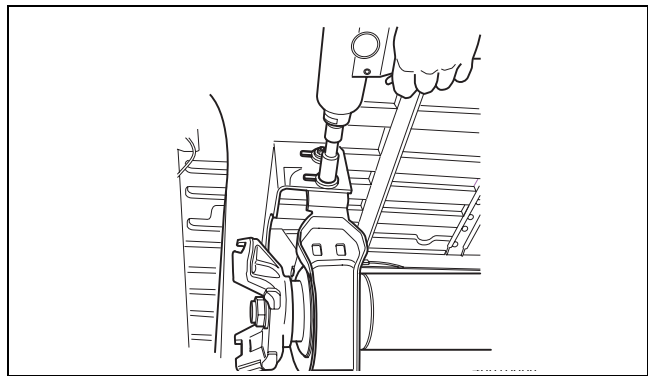

Figure 9.16
3. Install bearing spacers, if necessary, to return the bearing bracket to its original position. Figure 9.16.